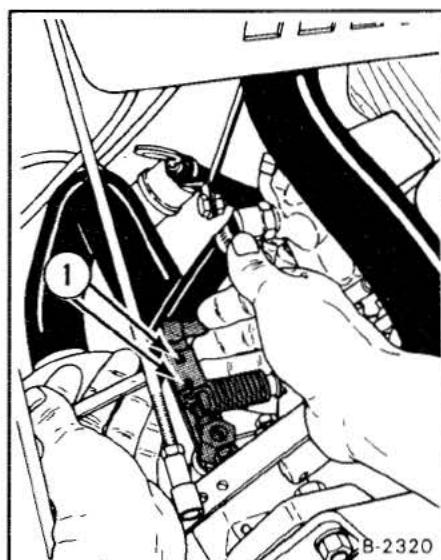

Fig. 55 Governor Adjustment
- Loosen the 2 screws on the governor arm (Fig. 55, Item 1).